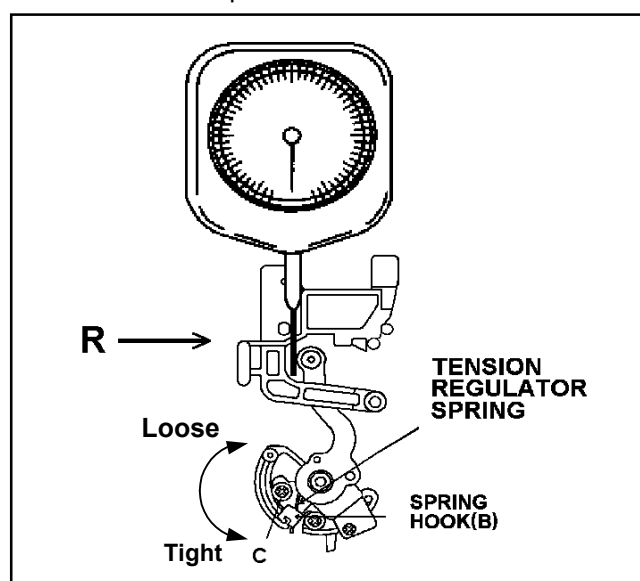

Figure 3-6-1
4. Push the tension post to the direction R by the tension gauge as shown in Figure 3-6-1 until the voltage at the test point becomes 3.8V (It means PLAY position). And then confirm the indication (tension) of gauge is in SPEC.
5. If it is out of SPEC, loosen the screw (C) and adjust the position of hook (B) so that the indication (tension) of gauge is within the specification. Then tighten the screw (C) and reconfirm tension is within the specification.